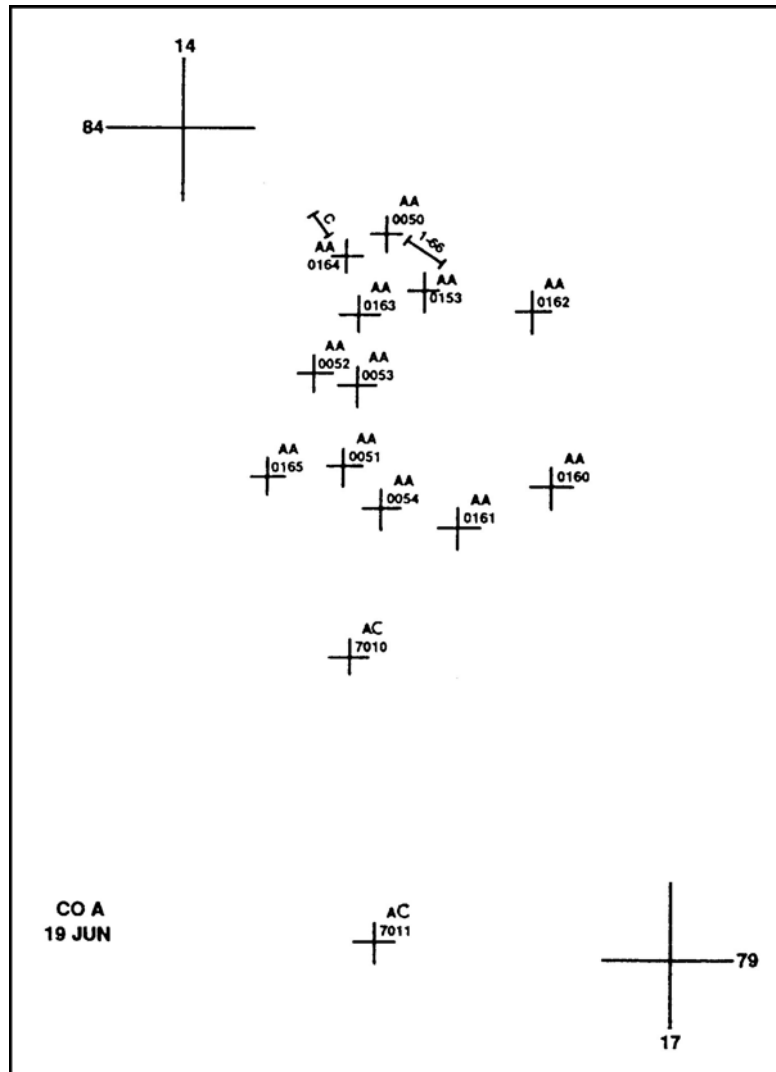

Figure 1. Target Overlay
4. The FSO must ensure that the platoon FOs, platoon leaders, and FDC computers are familiar with the fire plan. Target overlays (Figure 1) should be provided to them and to the company commander if time permits.